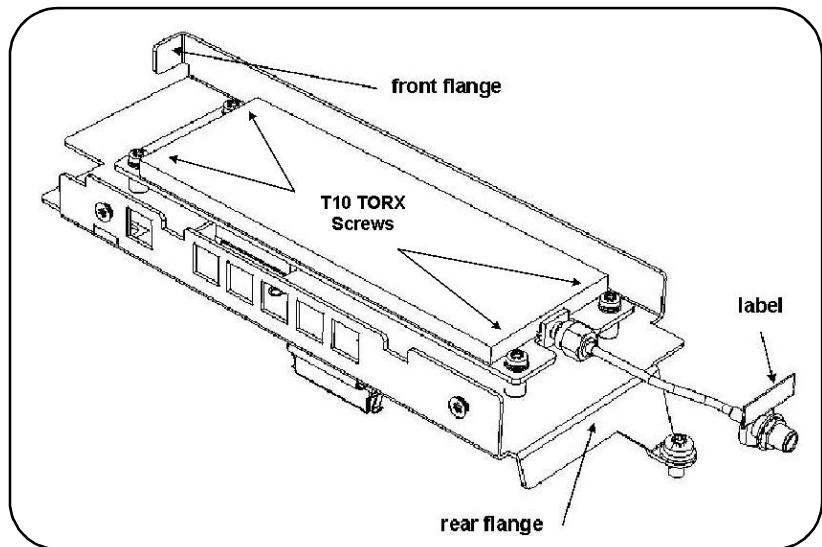

Figure 23. 53220A/53230A Channel 3 Rear Panel Option 106/203.
3. Assemble the parts in the Option 106 package as follows (Figure 23):